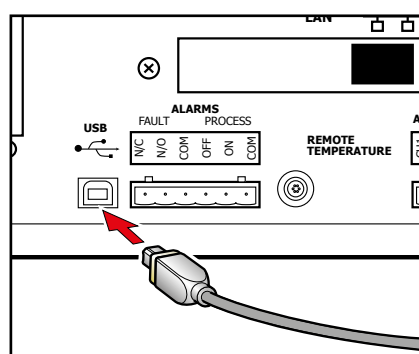

Figure 9 *USB Port Connection*
1. Rotate the body of the PRT probe connector until it locates in the socket labeled **REMOTE TEMPERATURE** (see *Figure 9*).
3. To remove the connector, slide the connector's body collar (1) back along its axis, away from the instrument, to release the lock. Gently pull the connector body out of the socket. **NOTE: Do not attempt to pull the connector out with the cable - make sure that the collar is first released.**
1. Check the orientation of the connector and gently push it into the communications socket (see *Figures 9 and 10*).
7. Insert the analog and alarm connectors into their respective sockets on the rear of the instrument (refer to *Figure 7*) and connect the external PRT probe and USB communications cable and connector as appropriate (refer to *Figure 8* and *Figure 9*).